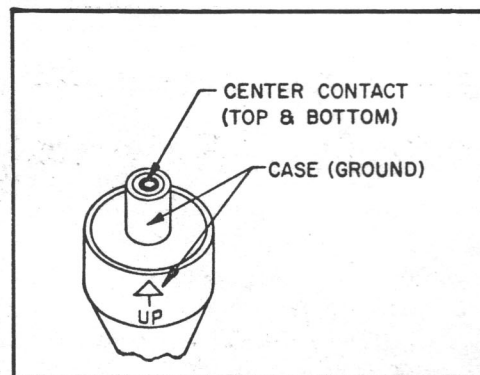

Figure 4-5. Mercotac
and bottom center contacts; then top and bottom outer contacts. (See Fig. 4-5.) Ohmmeter should read less than 1 ohm.
3. Check for no continuity (infinite resistance) between the center and outer contacts. (See Fig. 4-5.) If continuity is observed and spinning does not clear the contact, reseal the mercury as you would clear a fever thermometer. Hold the rotary contact with the fingertips, the funnel shaped end pointing away from the palm of the hand. Then apply centrifugal force, swinging the arm downward with a final wrist snap. If this does not clear the contact, it is probably defective and should be replaced.
A defective contact should be replaced. Carefully seat the contact on the shaft of the rotonic drum. Make certain the arrow on the contact points toward the drum. (See Fig. 4-5.) Press the contact onto the shaft.